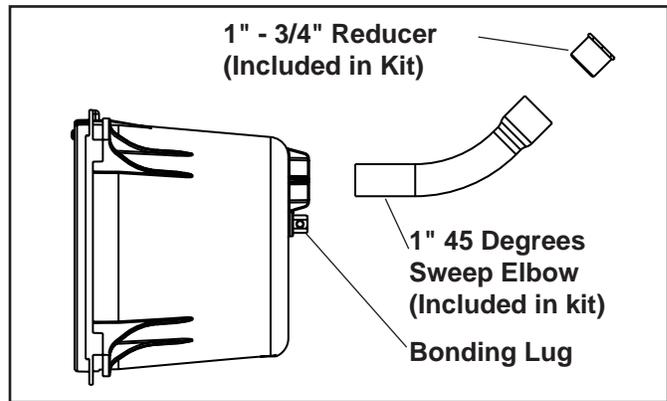

Figure 2. Plastic Niche Installation
- b. Attach conduit to the back of niche using the proper PVC/CPVC primer and glue. See Figure 2. A 1" PVC 45 degree sweep elbow is included with the niche to direct the conduit pipe upwards toward the junction box. A 3/4" reducer is also included with the niche to permit the use of 3/4" conduit pipe. Make sure to follow the primer and glue manufacturer's instructions for the preparation procedures and curing times.